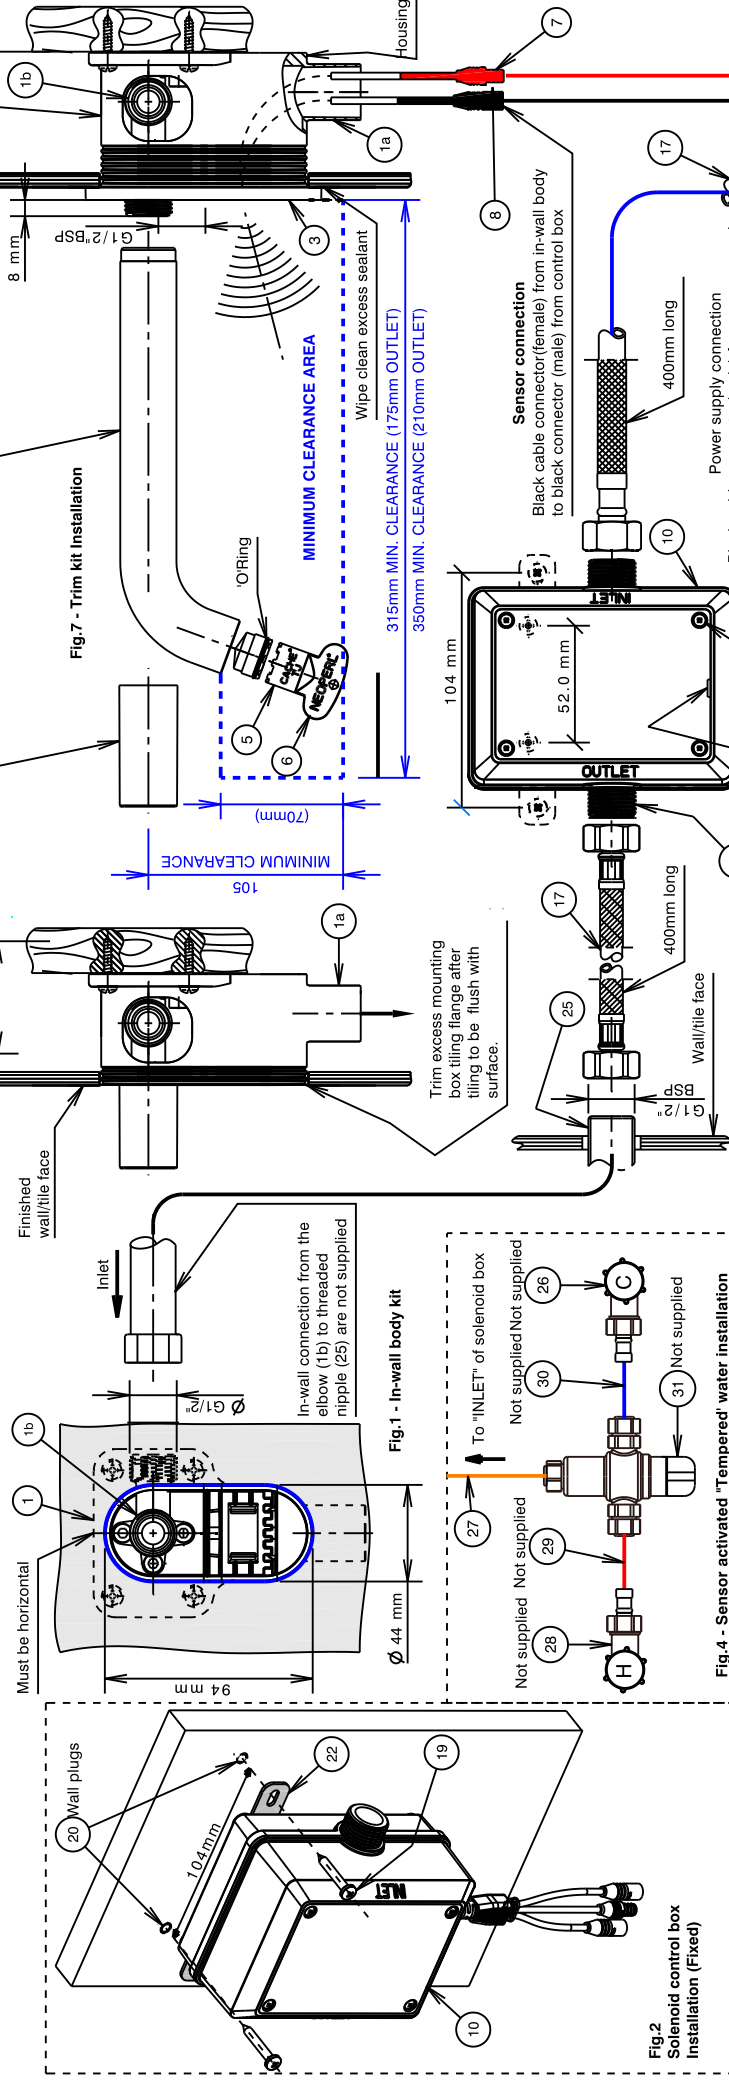

Fig.4 - Sensor activated "Tempered" water installation
- * The wall/tile cut-out must be $\varnothing 44 \times 94$ mm to ensure enough sealing surface for cover plate (3), **Fig. 4 & 6**.
ii) Sensor activated 'Tempered' water bypass (Fig.4)-